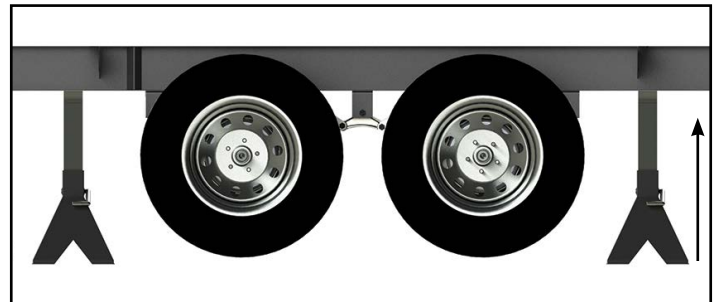

Fig.1
1. Using the properly-rated floor jacks, lift the trailer according to the manufacturer's recommendation until the wheels are no longer in contact with the ground (**Fig.1**).